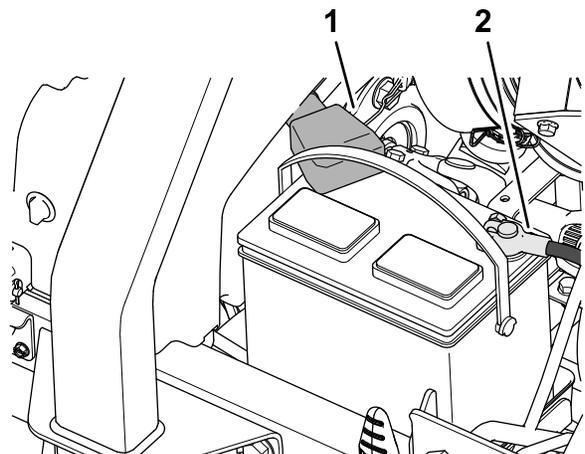

Figure 95
3. Disconnect the negative battery cable (Figure 95).